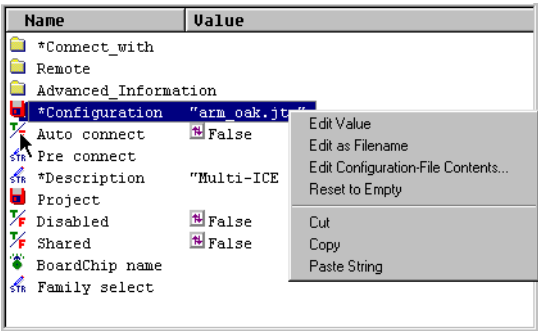

Figure 4-8 Editing JTAG files in the Connection Properties window
4. Select **Connection Properties...** to display the Connection Properties window. Right-click on the required .jtg file and select **Edit Configuration-File Contents...** from the context menu, shown in Figure 4-8 on page 4-16.